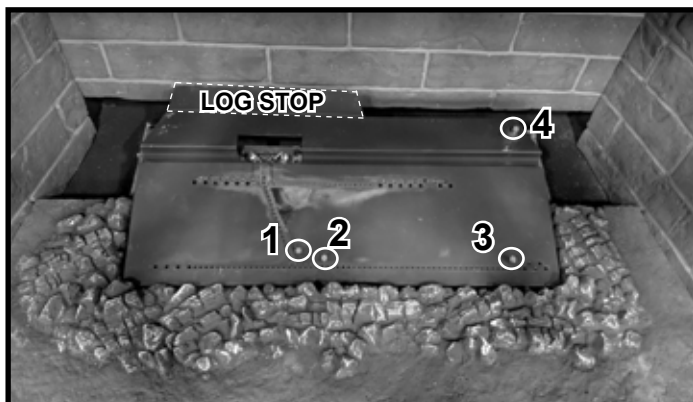

Figure 2 Locations for Log Pins
1. Reference the four log pins and the location of the log stop shown in Figure 2.
Log #1: Place Log #1 as shown in Figure 3. The right end touches Log Pin 4. Push the log back until it rests against the log stop shown in Figure 2.